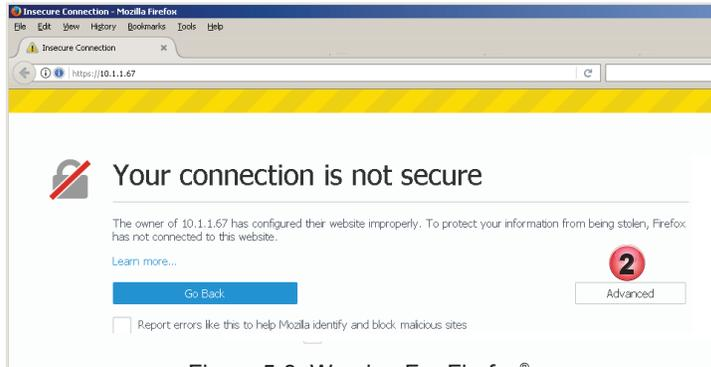

Figure 5-3: Warning For Firefox®
2. If this is the first time you have connected to this unit with this Management Computer, you may get a browser security warning, see Figure 5-3, however, depending on the browser you used, your message may look different than this. This warning is due to the UCrypt Device having a self signed security certificate. It is not a security threat but your browser identifies it as such due to the certificate being self signed. Click through to accept the warning. You may later add your own security certificate during configuration.